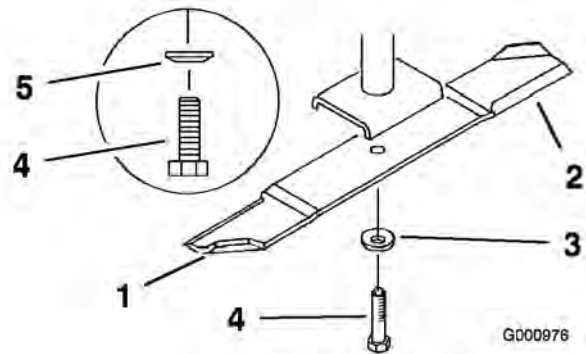

Figure 82
2. Remove the blade bolt, spring disk and blade from the spindle shaft (Figure 82).
(Figure 82). Repeat this procedure until the blade is balanced.
1. Install the blade onto the spindle shaft (Figure 82).
2. Install the spring disk and blade bolt. The spring disk cone must be installed toward the bolt head (Figure 82). Torque the blade bolt to 85-110 ft-lb (115-150 N•m).